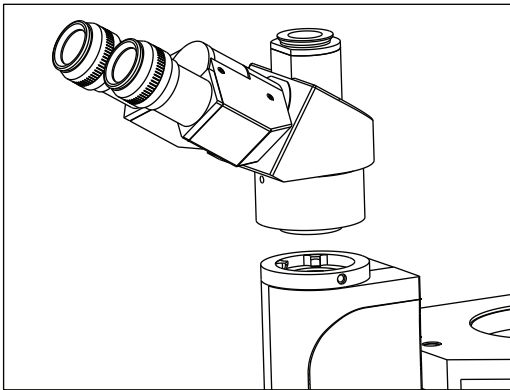

Fig. 4
Install the observation head using the following procedure as shown in Fig.4:
1. Using the 3mm allen wrench (provided), loosen the Head Locking Screw (1) and remove the dust cover cap provided in Dovetail cavity as well as on the observation head dovetail.
3. Tighten the Head Locking Screw (1) after positioning the Observation Head as desired. See figure 4.